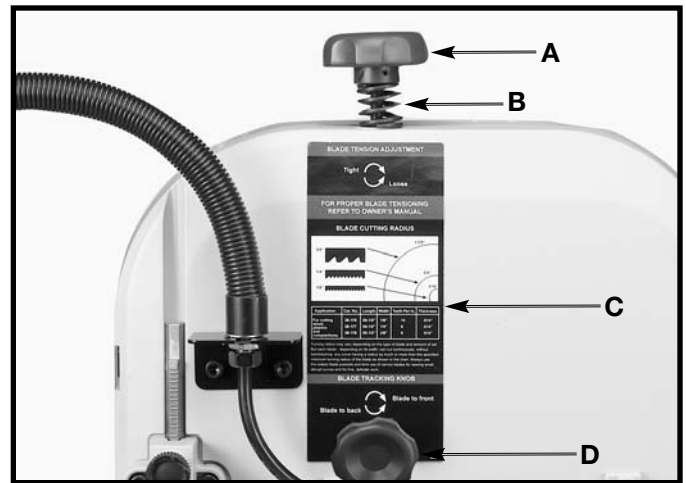
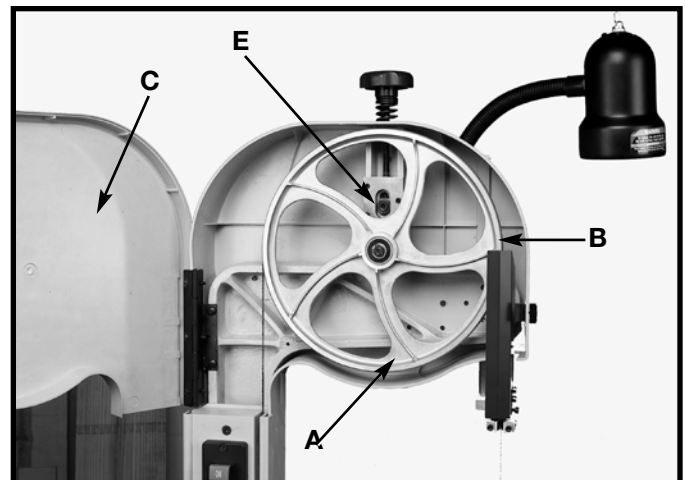
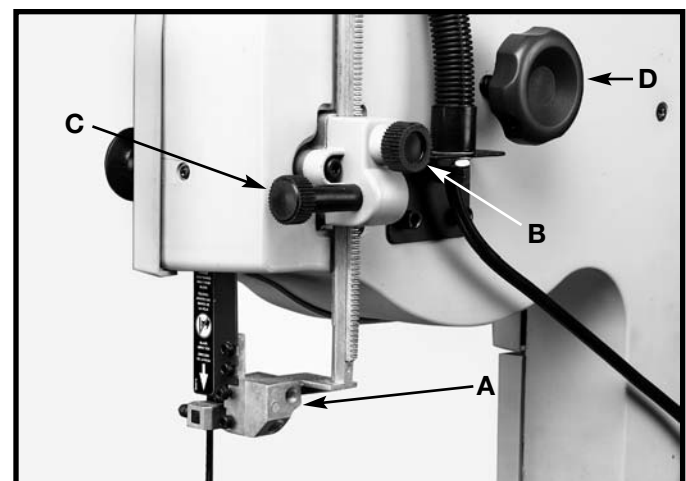

Fig. 24
Fig. 25
Fig. 26
1. To install the desired blade, loosen screw (E) Fig. 25 with 5mm hex wrench provided and turn the tension knob (A) Fig. 24, clockwise until the spring (B) begins to compress.
2. Turn the tension knob (A) Fig. 24 an additional 2-1/2 turns for 1/8" wide blades; 3 turns for 1/4" wide blades; and 4 turns for 3/8" wide blades. Tighten the screw (E) Fig. 25.
3. A chart (C) Fig. 24 is located at the rear of the band saw. This chart shows blade size, and the minimum radius that can be cut with each size blade.
2. Open the hinged door (C) Fig. 25.
3. Rotate upper wheel (A) Fig. 25, clockwise by hand and check to see if the blade (B) rides true on the approximate center of the two wheels.
4. If an adjustment is necessary, turn the blade tracking knob (D) Fig. 24 and/or Fig. 26, clockwise to move the blade to the rear, and counterclockwise to move the blade to the front. **NOTE:** Turn the blade tracking knob (D) in small intervals to adjust the blade tracking.
The upper blade guide assembly (A) Fig. 26 should always be no more than 1/8" above or as close as possible to the top surface of the workpiece being cut. Loosen knob (B), rotate knob (C) and position the guide assembly (A) to the desired position. Then tighten the knob (B).